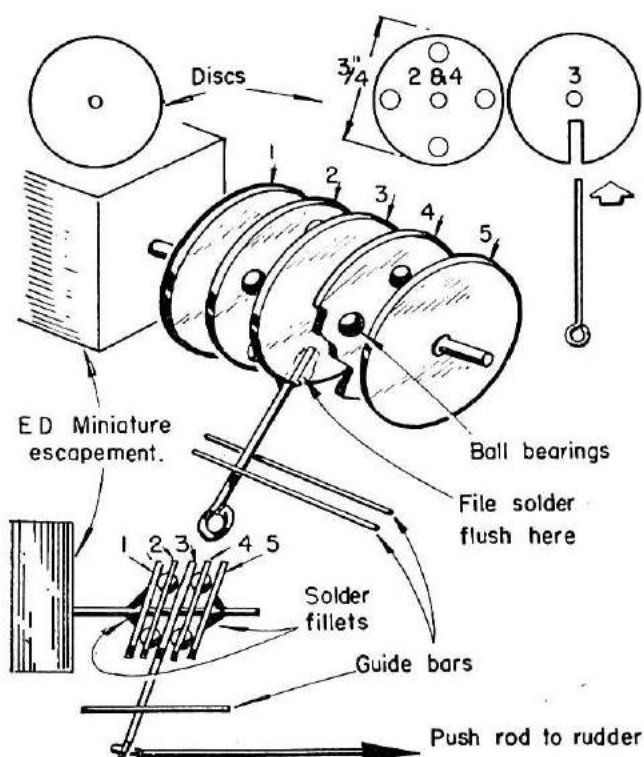

FIG. 2
**D. Youens** contributed this "Swash-plate" modification to escapement (shown in Fig. 2). The advantages of the system over the more orthodox crank at the rear of the tailplane are as follows:
- (1) Enables rudder to extend to bottom of fin and therefore more suitable for scale types of air-